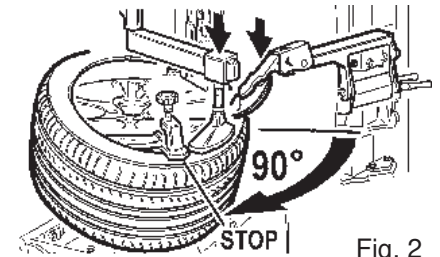

Fig. 2
-Keep the upper bead loosening roller at drop-center level, spin slightly to insert the pressing tool between the roller and the clamp and pressing onto the tire side until the upper bead reaches drop-center level (fig. 2).